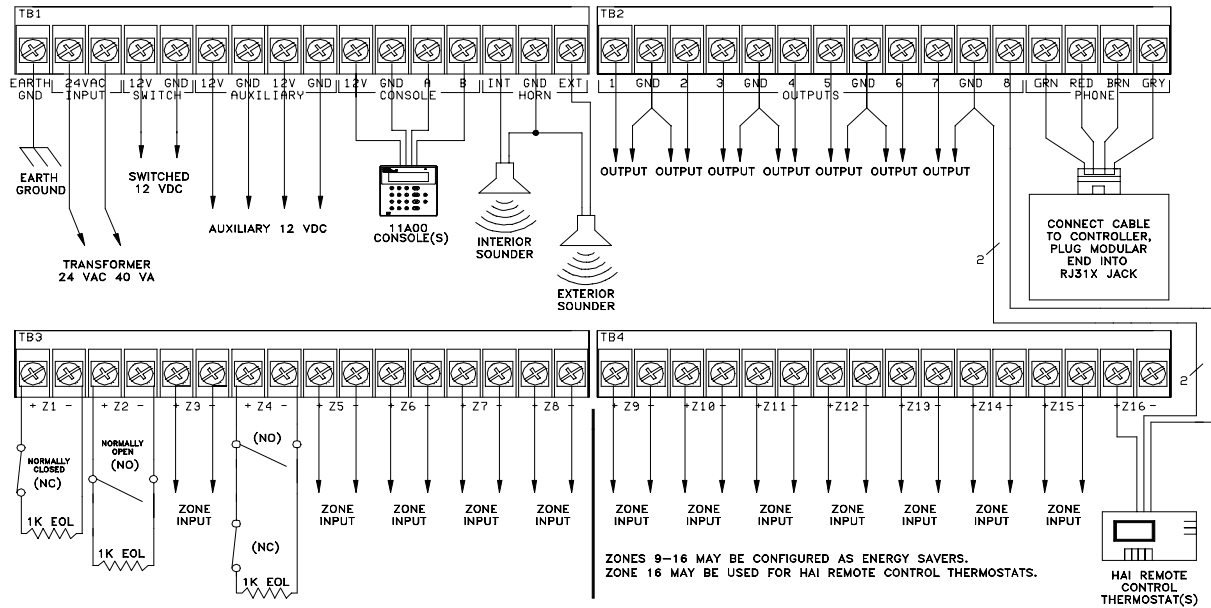

FIGURE 2
6. See **FIGURE 2 (OVERALL CONNECTIONS DIAGRAM)** for configurations of burglary zones.